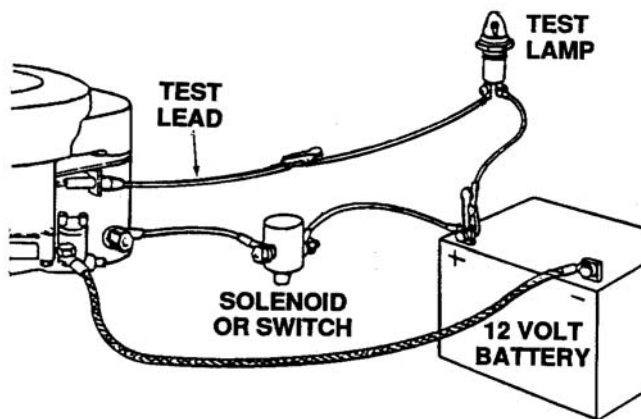

**Figure 2-6. Dual Circuit**
**2-9.3 Dual Circuit (Engine Alternator) (Figure 2-6).**